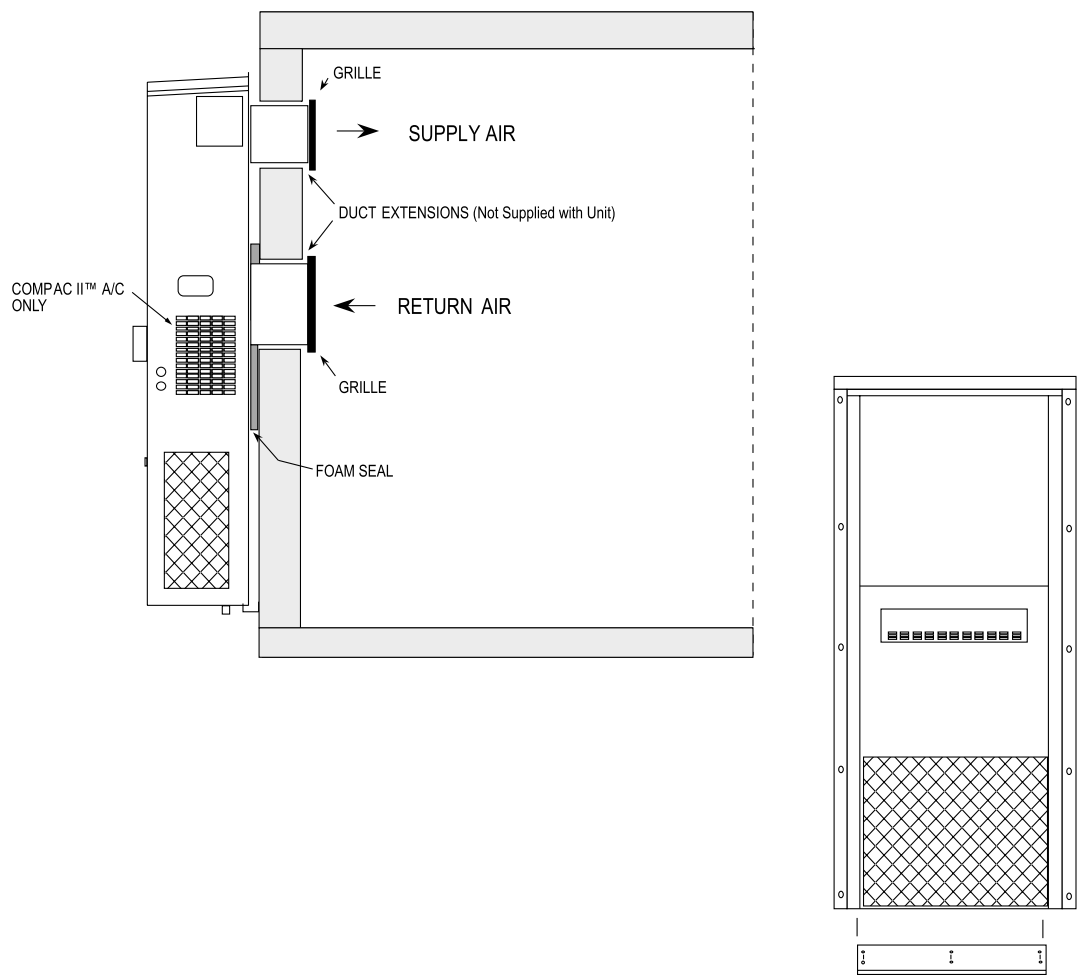

Figure 7. ComPac® I and ComPac® II A/C Wall Mount Detail (AVP20-72)
3. Refer to Figure 7. Attach the bottom support bracket to the wall using appropriate 3/8" diameter hardware.